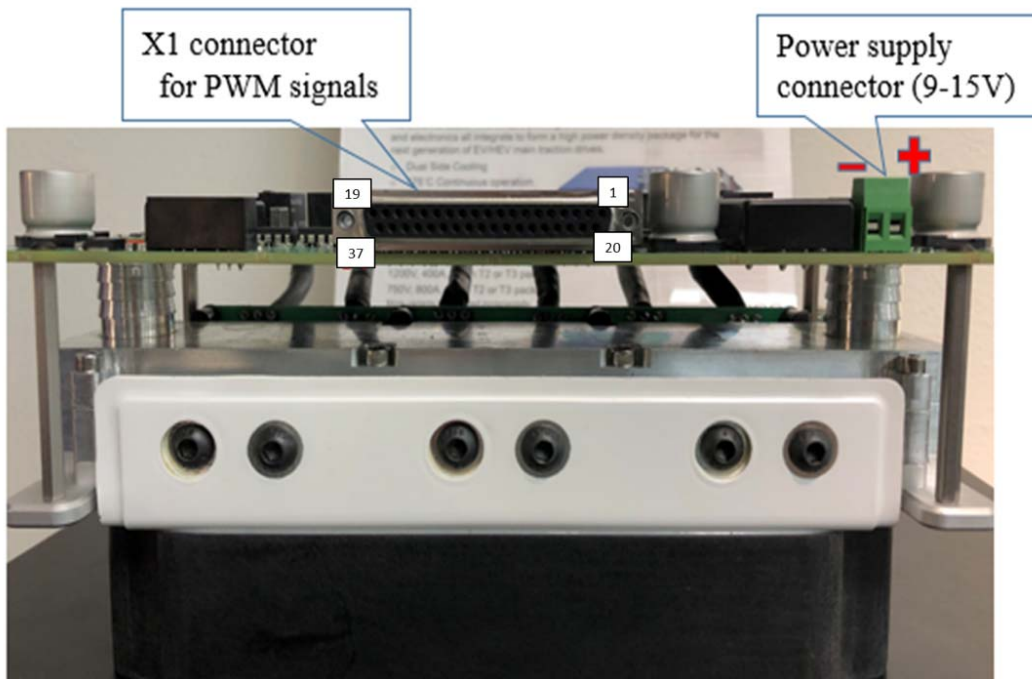

Figure 7. Controller Interface
- Connect control power supply to Inverter at connector J18, refer to Figure 7
- Connect logic PWM signal from DSP/MCU to gate driver board at DB37 pin connector as shown in Figure 7